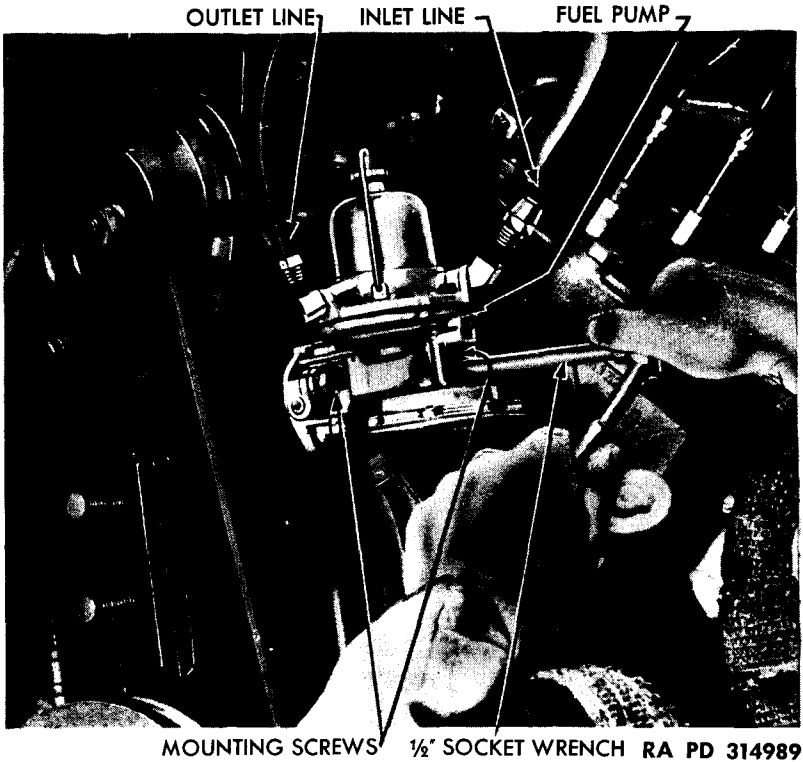

Figure 81 – Removing Fuel Pump
c. Fuel Pump Removal. Shut off fuel line valve at main fuel filter and run engine until fuel in pump is exhausted. Open engine compartment rear doors and remove fan, belt and bracket. Disconnect fuel lines at fuel pump. Remove two screws holding fuel pump to left side of engine front cover (fig. 81). Remove fuel pump and gasket.